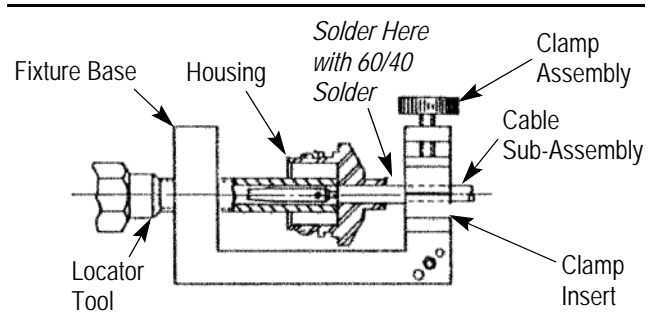

Figure 5
2. Place loose assembly in fixture base as shown in Figure 5